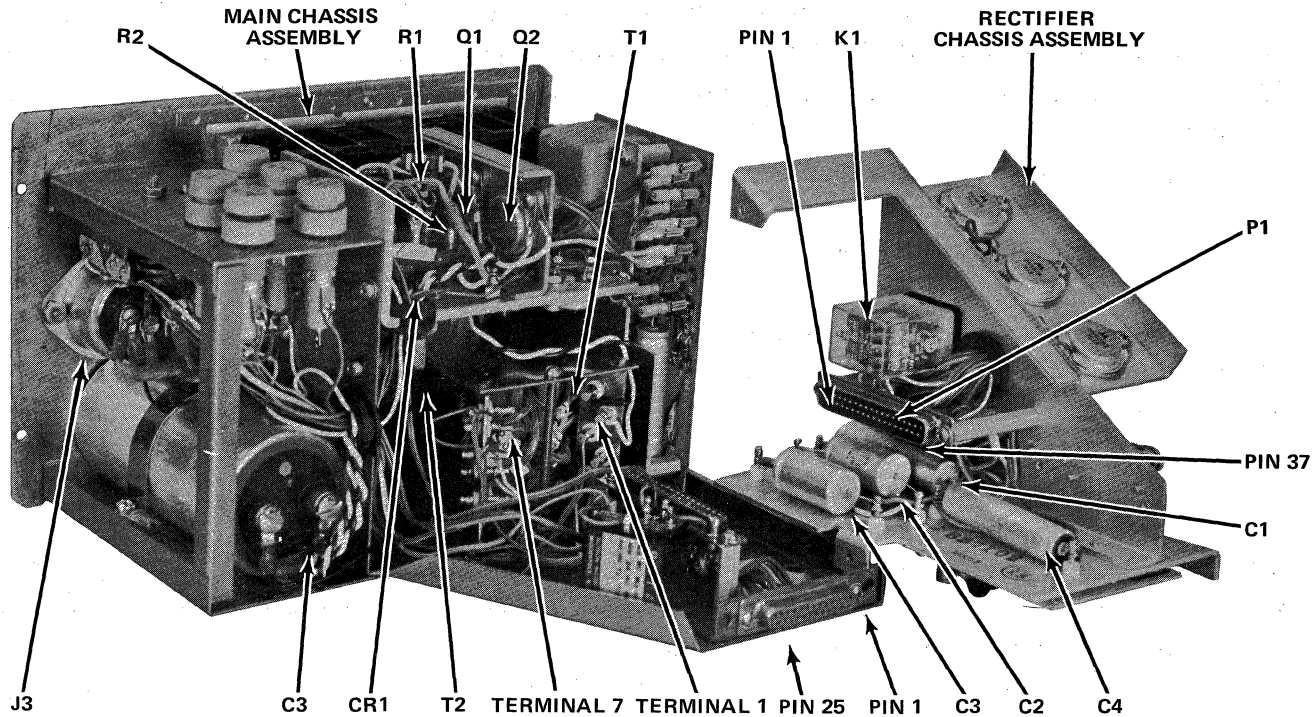

Figure 8-1. Main Chassis and Rectifier Assembly
The power distribution for the SABRE VI is divided in three separate areas: (1) main chassis assembly, (2) rectifier assembly and regulators, and (3) circuit distribution (Refer to Figure 8-1). The main chassis assembly accepts input power and converts it to several ac voltage levels through the use of a power transformer. Components in the main chassis assembly vary somewhat with the voltage input the unit accepts (117 ac, 234 ac, 12 dc, 26 dc). The figures in this section illustrate the 117 vac version. The remaining versions are similiar and parts identification should be readily apparent. The rectifier assembly and regulators is the second portion of the power supply that accepts ac voltages from the power transformer and converts them into specific and regulated voltage levels for use in the electronics of the recorder/reproducer. The rectifier assembly and regulators are very nearly identical in each of the available power supplies. The third portion of the power supplies is the circuit distribution. This portion distributes the several voltage levels throughout the recorder/reproducer to the points of usage.